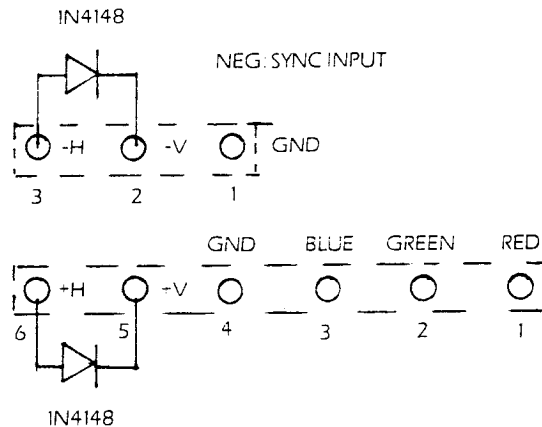

FIG. 4
**CURE 2:** Connect 1N4148 fast-switching diodes across both the positive and negative sync inputs to the monitor. (See Fig. 4) **NOTE:** Both diodes must be installed or you will not have vertical stability.